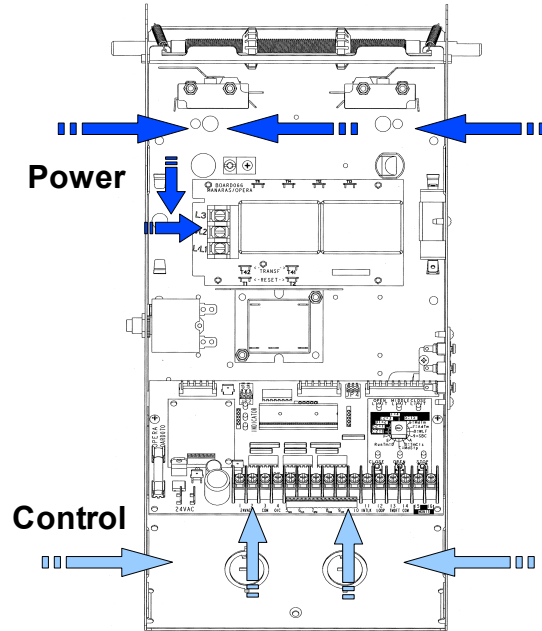

Figure 18 - Low Voltage (Controls) and High Voltage (Power) Connections
1. Route the power line wires either from the right or from the left of the control box, as shown in Figure 18.
2. Route all low voltage control wires, as shown in Figure 18. **KEEP LOW VOLTAGE WIRES SEPARATE FROM LINE VOLTAGE WIRES.**